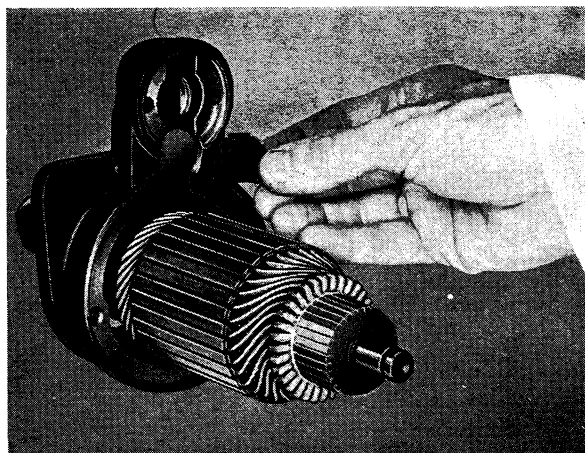

Fig. 3-60. Removing sealing washer
9. Remove the rubber washer and metal washer, see Fig. 3-60.